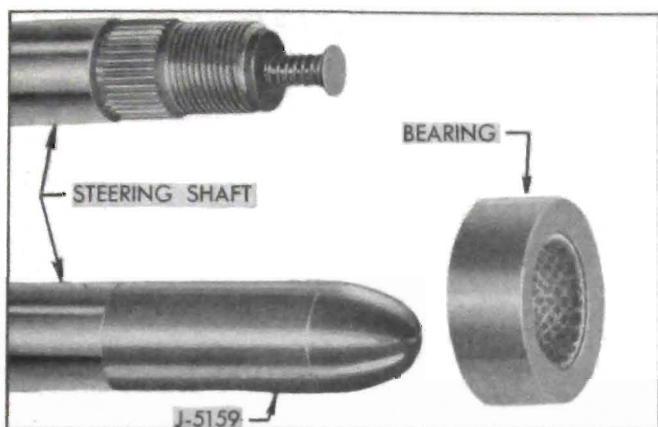

Figure 8-19—Steering Shaft, Bearing, and Bearing Protector
See figure 8-19. Slot in lower end of jacket must engage dowel pin in hydraulic valve cover.
14. Remove steering wheel and Adapter J 5182, place Protector J 5159 over threaded end of steering shaft (fig. 8-19) and install hydraulic valve cover with a new O-ring seal properly seated in its groove. With dowel pin in cover placed on opposite side from the "RT" port in valve housing install cover bolts with lockwashers and tighten securely.